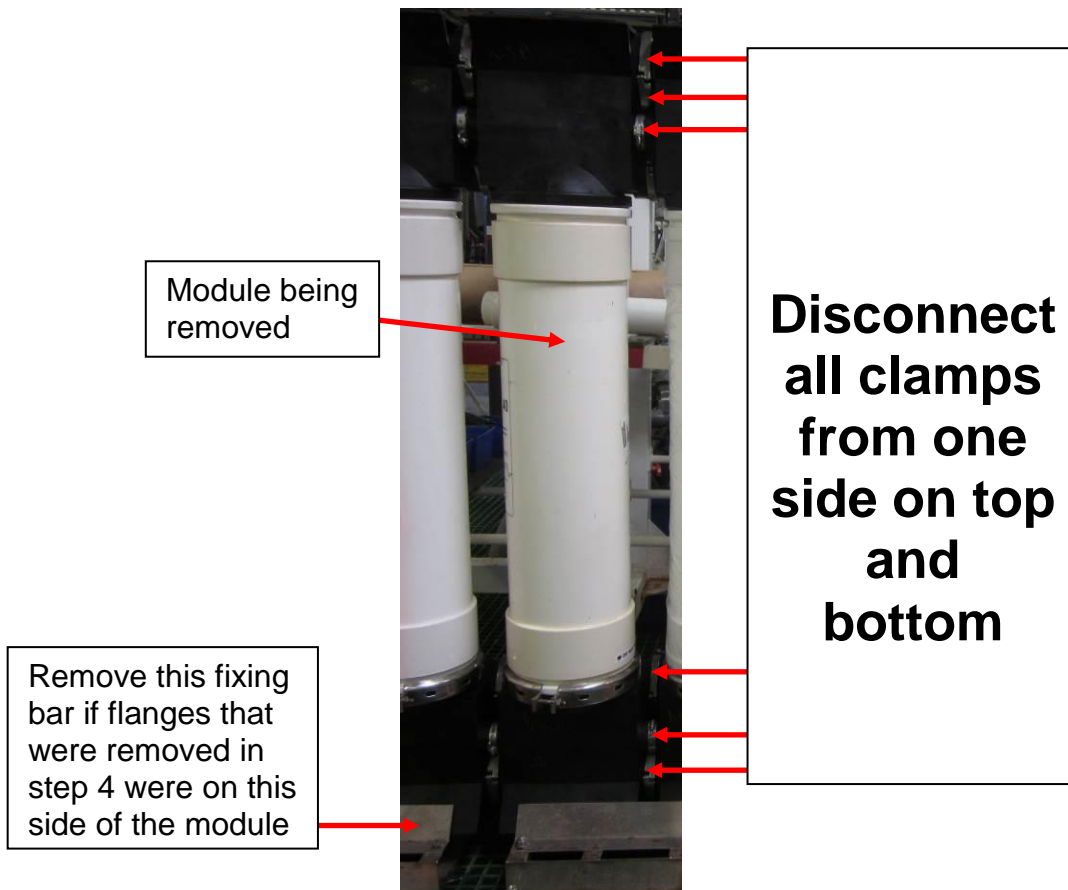

Figure 2: Disconnect clamps on one side of module
5. Disconnect all sanitary clamps from top and bottom (2x6" clamps, 2x4" clamps, and 2x2" or 3" clamps) on one side of the module that is to be removed. See Figure 2.
removed. See Figure 2. Leave the other front fixing bars in place. **NOTE:** Any additional straps or braces that are in place should be removed at this time as well.